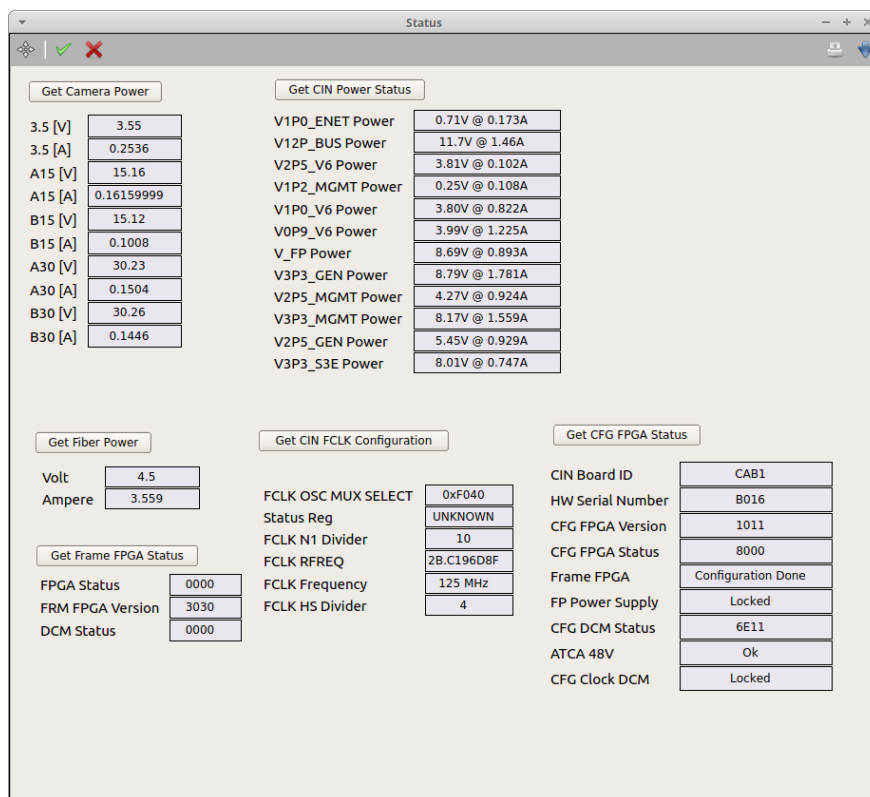

Fig. 3.7: The Status scene.
**Status:** This scene (Fig. 3.7) presents the setpoints and readback values for the voltages and currents of different parts of the system. Check this scene to find out whether or not the detector is ON and configured.